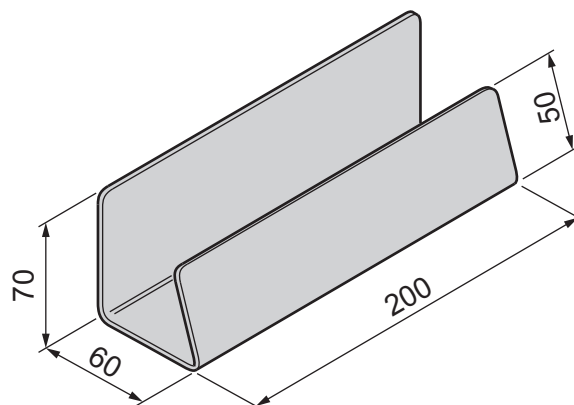

Fig. 5.1
- 5 Fig. 5.1 shows a basic design for a letter rack made from 4 mm thick acrylic.